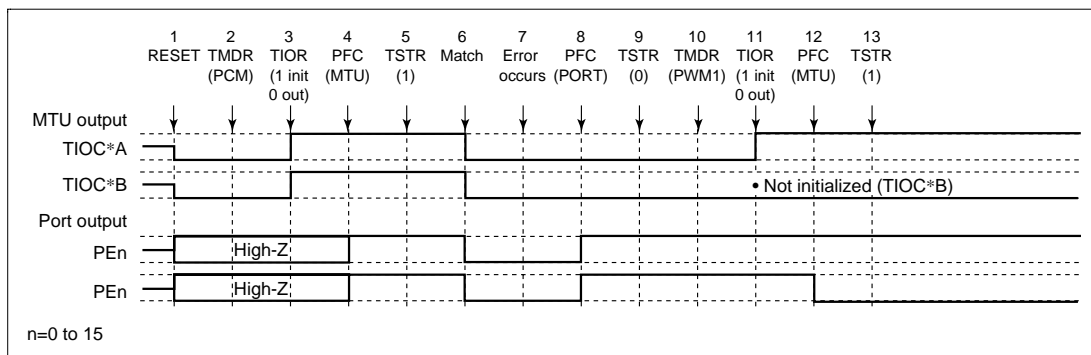

Figure 12.113 Error Occurrence in Phase Counting Mode, Recovery in PWM Mode 1
(18) Operation when Error Occurs during Phase Counting Mode Operation, and Operation is Restarted in PWM Mode 1: Figure 12.113 shows an explanatory diagram of the case where an error occurs in phase counting mode and operation is restarted in PWM mode 1 after re-setting.